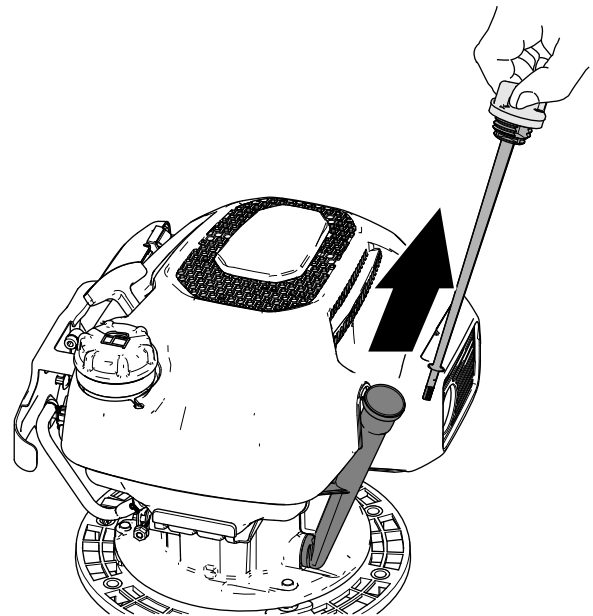

Figure 14
2. Remove the dipstick from the oil-filler neck and wipe the dipstick with a clean rag (Figure 14).
5. Secure the handlebar fitting to the upper handlebar (Figure 14) with the bolt (1/4 x 1-3/4 inches) and locknut (1/4 inch).